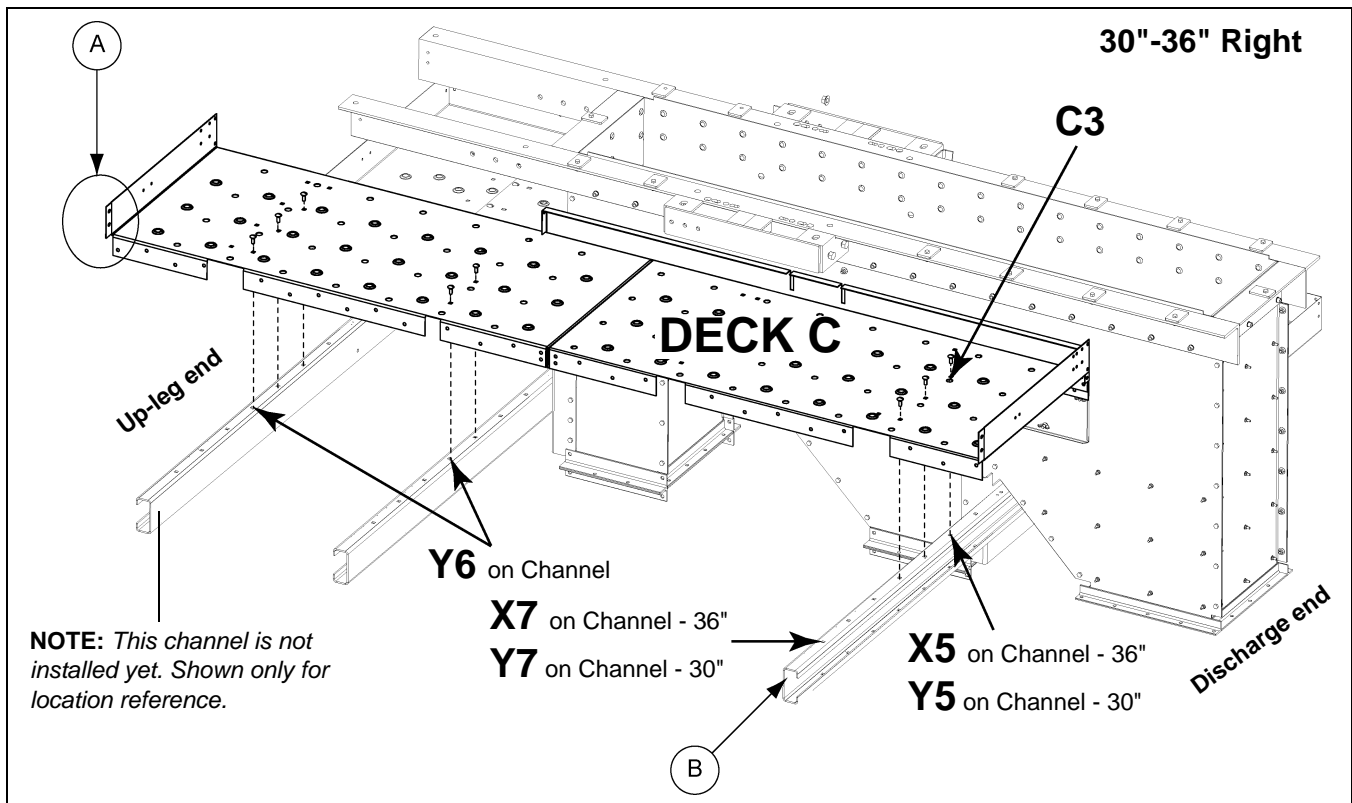
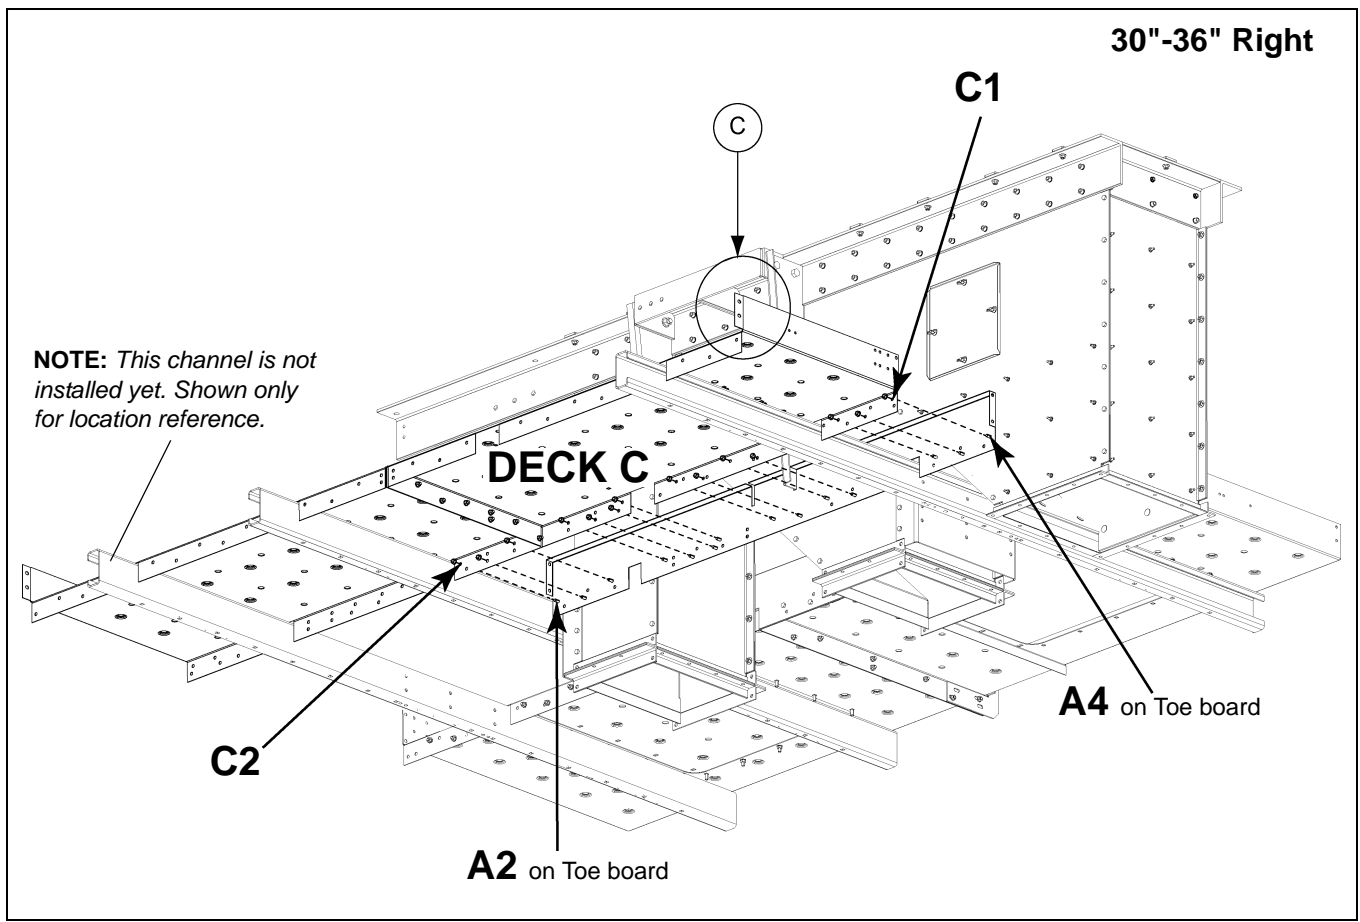

Figure 8J Deck C to Cross Deck Support Channels
Figure 8K Underside View of Deck C to Toe Board
(See Figure 8J below and Figure 8K on Page 57.)
5. Connect cross deck support channel and Deck C using 3/8" x 1" carriage bolts (S-3585) with flange nuts (S-10028). Connect all holes between channel and deck. (See Figure 8J.)